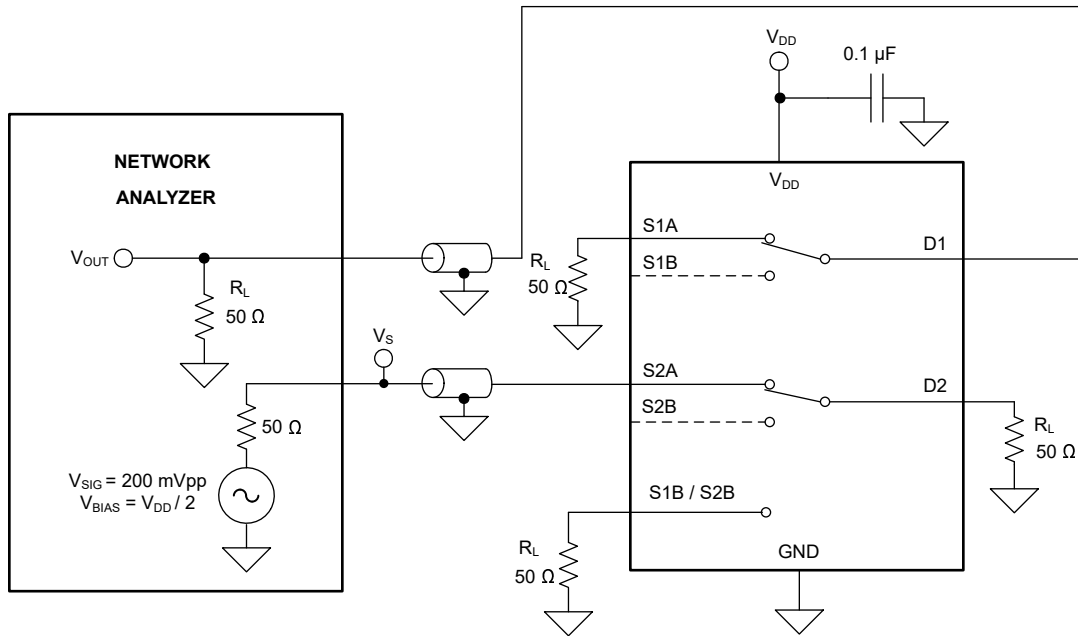

**Figure 7-13. Off Isolation Measurement Setup**
Off isolation is defined as the ratio of the signal at the drain pin (D) of the device when a signal is applied to the source pin (Sx) of an off-channel. Figure 7-13 shows the setup used to measure, and the equation used to calculate off isolation.